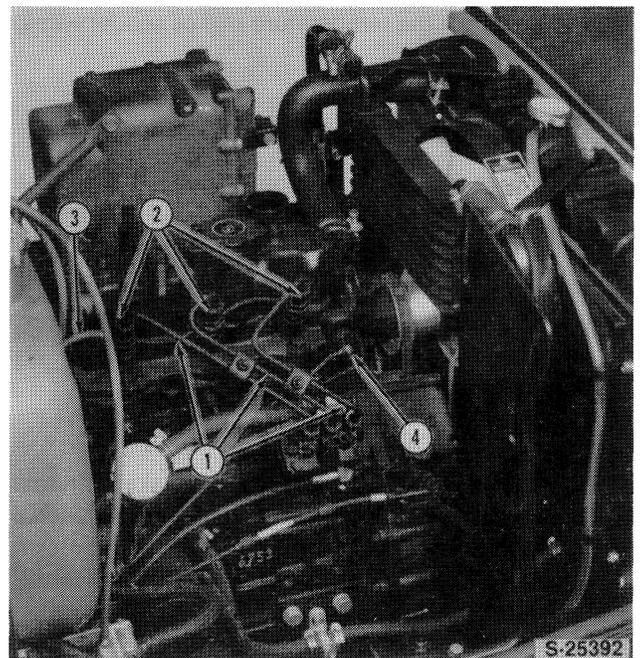

Figure 5
4. Remove the injector lines (1) leak-off tubes (3) and injectors (2), Figure 5.
5. Disconnect the vent tubes from the rocker cover, Figure 5.
9. Disconnect the temperature and oil sender wires, Figure 5.